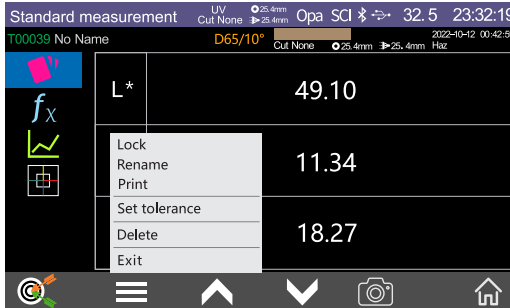

Figure 33 Printing Interface
- 6、 Click  to select "Print" in the pop-up menu (as shown in Figure 33), then start to print the sample, the content of the print will be different